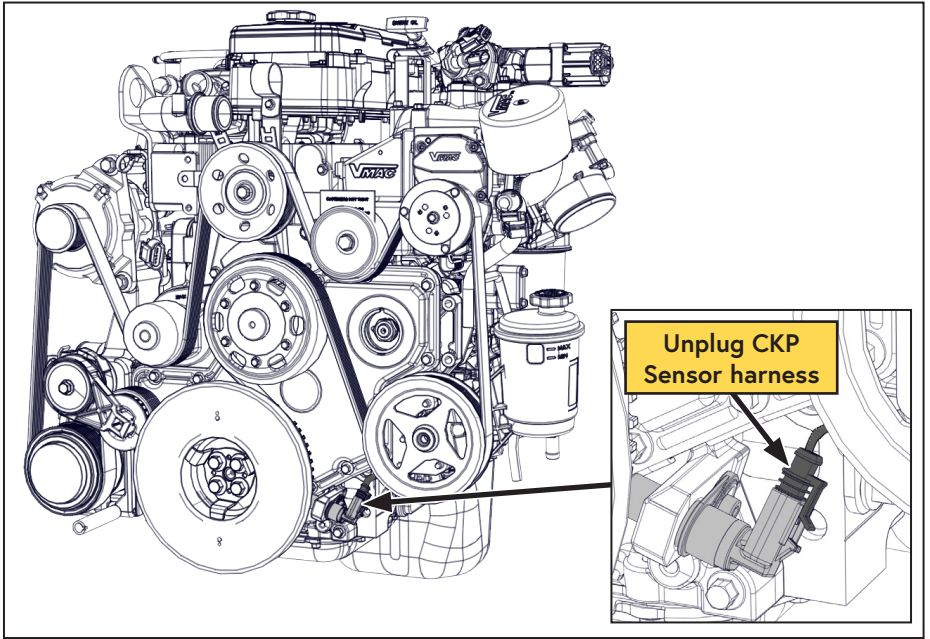

Figure 33 — Crank Position Sensor Location
- Locate the Crank Position Sensor (CKP sensor) on the driver side of the engine near the crank pulley (Figure 33).